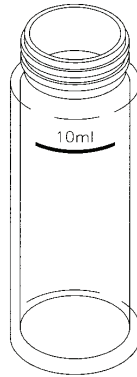

Figure 2. Cuvet
5. Rinse a cuvet three times with water to be tested. Then fill the cuvet up to 10 ml mark on the cuvet. See Figure 2.